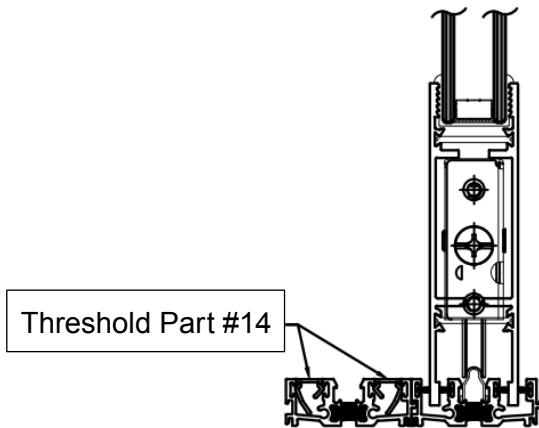

FIGURE 16A
21. Install the threshold (Part #14) into the exterior sill track (Part #8) and install the smallest trim cap (Part #13) into the head exterior track (Part #6) shown in figures 16a and 16b.